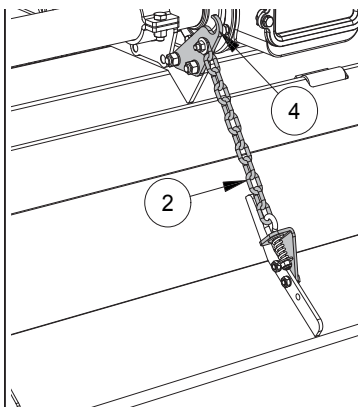

FIG. 17
To level and crumble the soil to a greater degree, the machine has a rear hood (1, "Fig. 17") positioned behind the hoes. It can be adjusted in height by means of a chain (2). It is recommended to start working with the hood in a middle position: after the first working metres, when reaching the chosen depth, secure the position of the hood by hooking the chain (2) to the support (4).